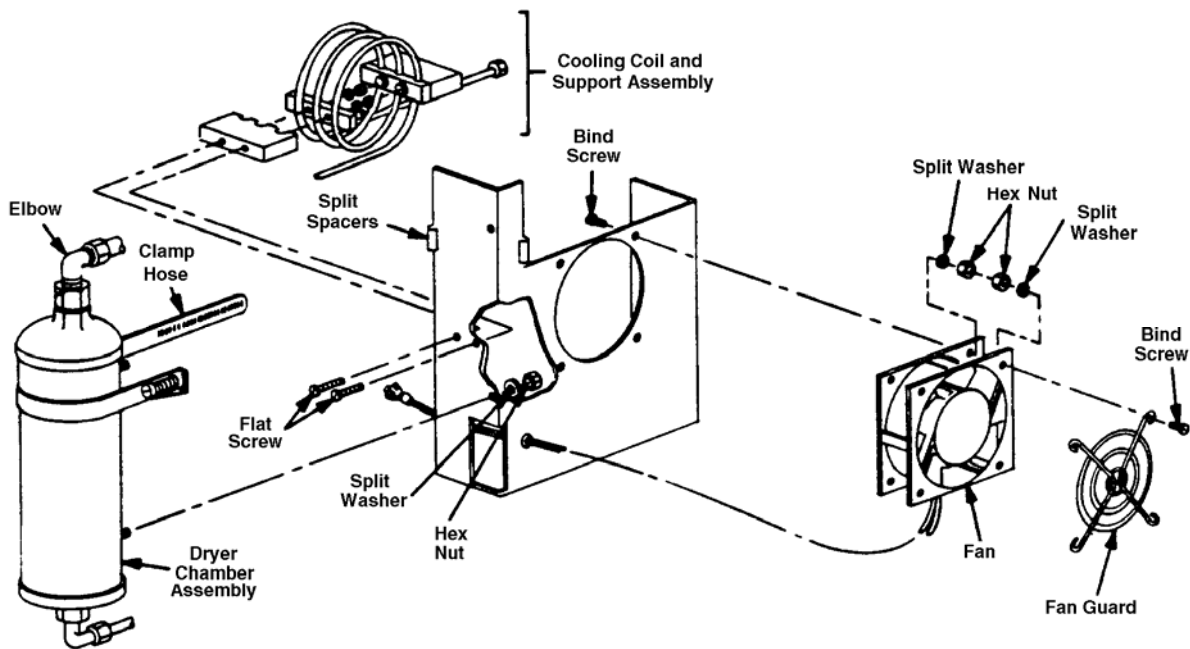
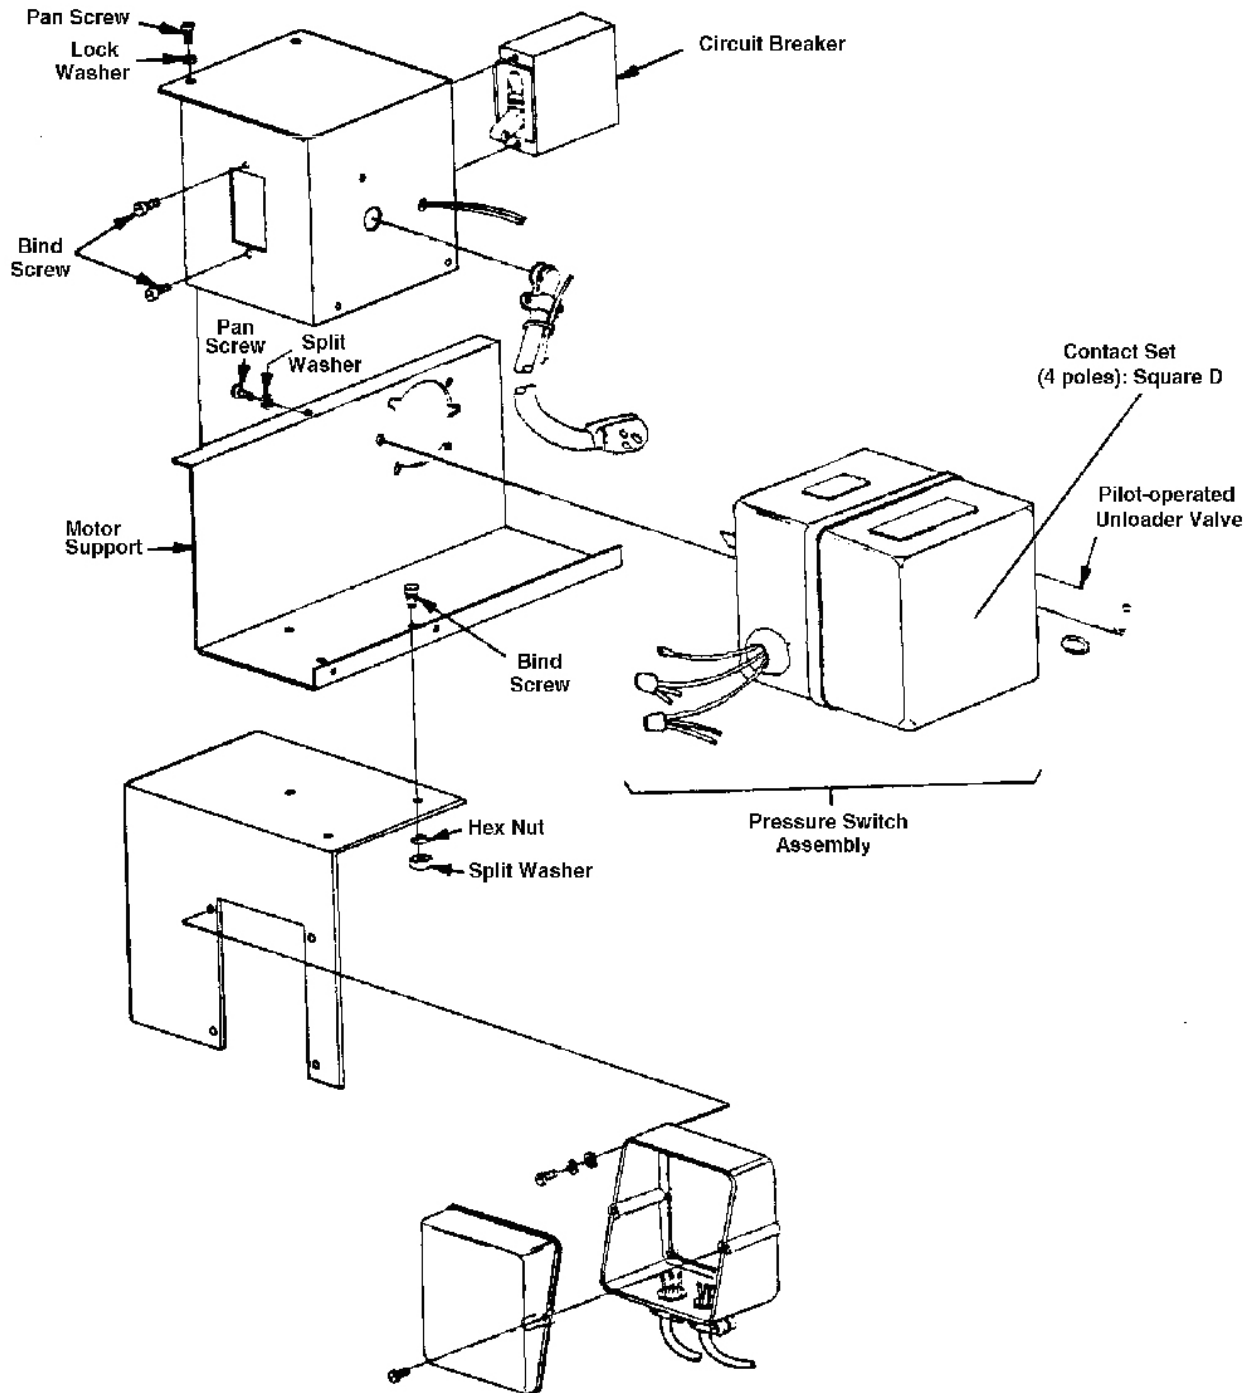

Figure 4-1. Dryer and cooling coil assembly.
Figure 4-2. Pressure switch and bracket assembly.
b. **Remove the Dryer and Cooling Coil Assembly.** To remove the dryer and cooling coil assembly, refer to figure 4-1 and use the following procedures.
- (1) Disconnect the cable from the cooling fan to the circuit breaker at the connector.
- (2) Disconnect the fittings between:
- (3) Remove two nuts, lock washers, and flat washers from the bolts securing the dryer and cooling assembly to the compressor assembly base plate.
- (4) Replace the malfunctioning component.
- (5) Reassemble unit in the reverse order of removal.
- (6) Ensure that all fittings are leak proof.
- (7) Apply a paste-type pipe dope to all threads, except compression fittings, before assembling.
c. **Remove the Pressure Switch and Bracket Assembly.** You have isolated the cause of a malfunction in the compressor to a defective pressure switch and must now replace the switch. Refer to figures 4-2 and 4-3.